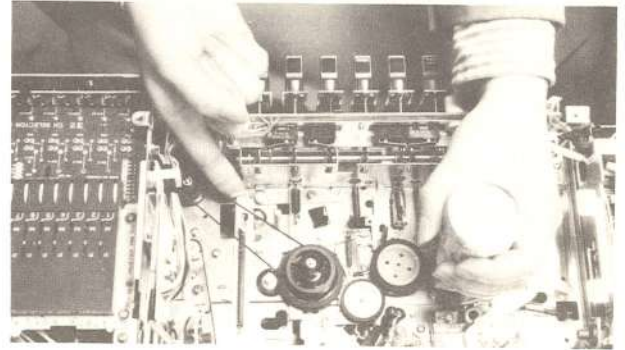

Fig. 4-17
3. Set the torque meter to the supply reel disk. Push the memory plate in direction of arrow (A) as shown in Fig. 4-17. Gradually relax your grip on the torque meter and read the meter while it is slowly slipping in your hand.